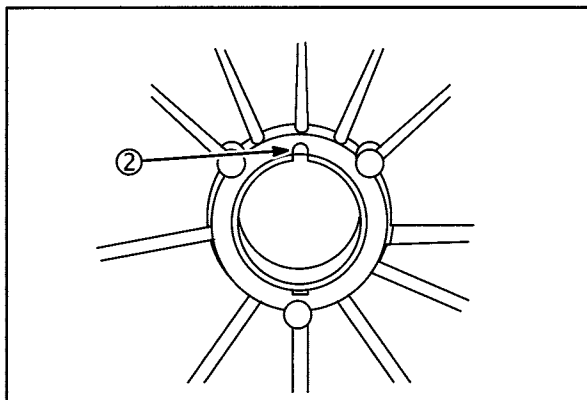

Fig. 8
4. Stake bearing in top notch (2) with 1/8" round pin punch to prevent bearing from turning, Fig. 8.